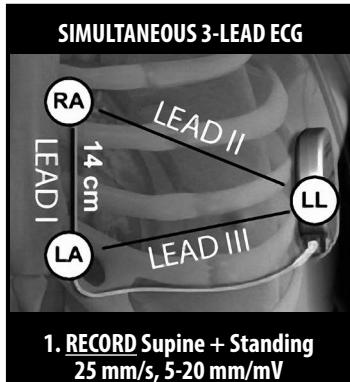

Figure 2: Typical placement of surface ECG electrodes for patient screening
1. In order to perform the patient screening process, a surface equivalent of the subcutaneous sensing vectors must be obtained. It is important to collect the surface ECG in the location that represents the intended position of the implanted S-ICD System. When placing the S-ICD System in the typical implant location, the surface ECG electrode should be positioned as described below (*Figure 2*). If a non-standard S-ICD System subcutaneous electrode or pulse generator placement is desired, the surface ECG electrode locations should be modified accordingly.